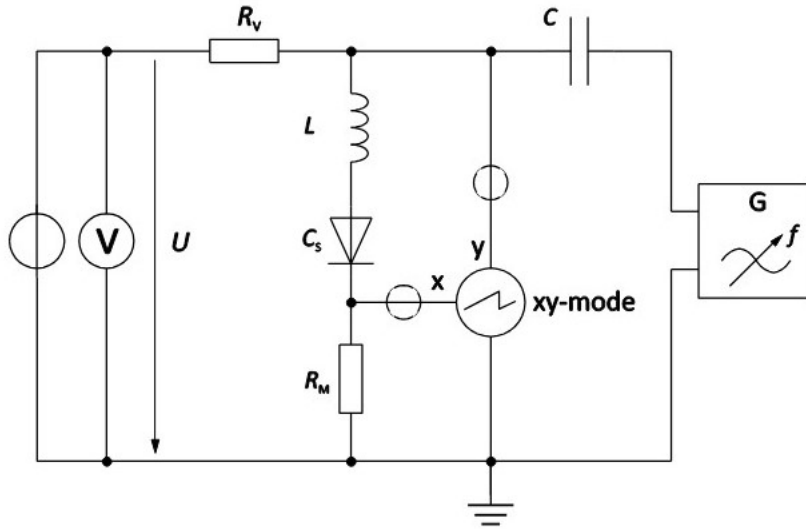

Figure 3.1: Circuit for determining  $C_s$  via resonance technique
1. The circuit was set up following the circuit diagram **Fig 3.1**.